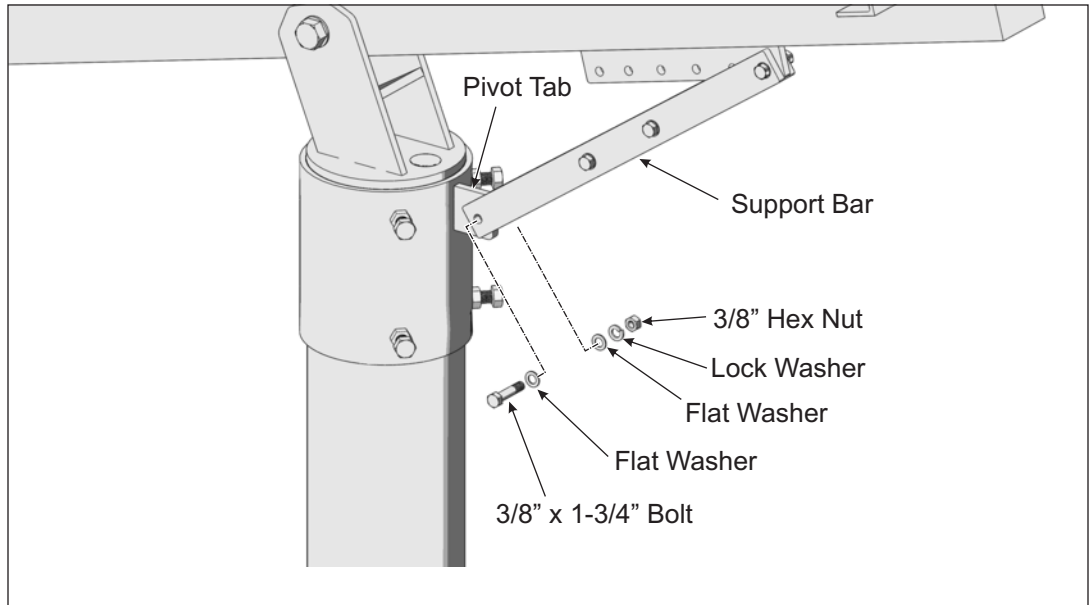

Figure 6-3: Securing Support Bar to Mounting Sleeve
- F. Pivot the Strongback and the Support Bar to align the mounting holes of the Support Bar with its Pivot Tab on the Mounting Sleeve. Slide the Support Bar over the Pivot Tab. Insert the 3/8" x 1-3/4" bolt and one flat washer through the Support Bar and Mounting Tab and secure it with the remaining flat washer, lock washer and hex nut. **Torque hardware on both ends of Support Bar at 32-34 ft.-lbs.** (See Figure 6-3)